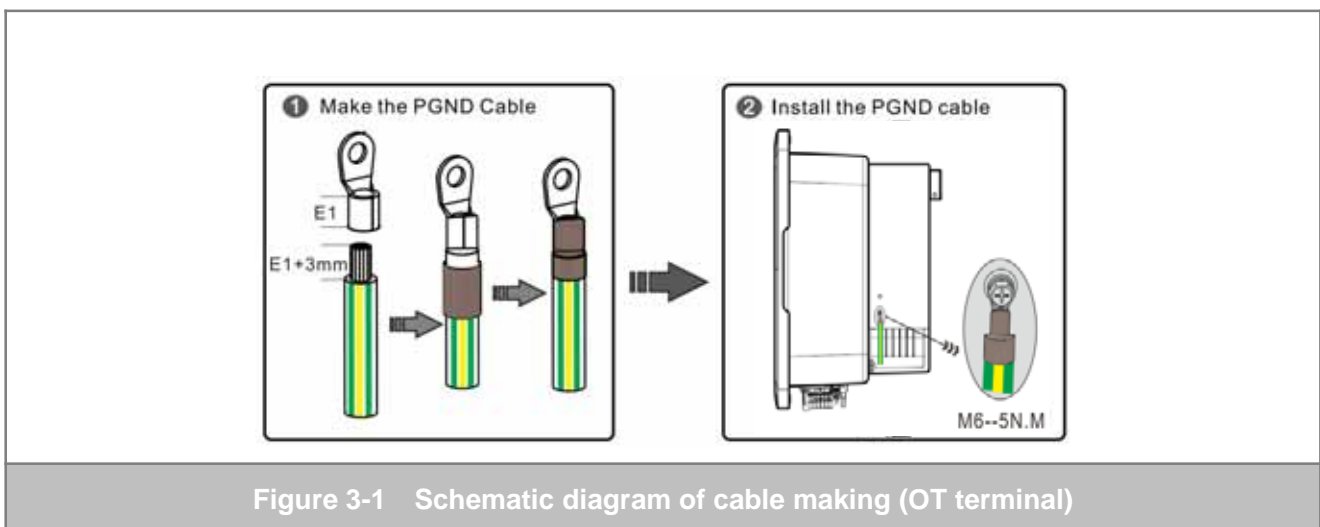

Figure 3-1 Schematic diagram of cable making (OT terminal)
- (1) Strip a section of bare copper core of the ground cable in the corresponding specifications using the wire stripper. Ensure that the length of the bare copper core is 3 mm longer than that of the OT terminal.
- (2) Cover the OT terminal with a heat shrinkable tube in a suitable size. It is recommended that the length of the heat shrinkable tube (withstand voltage $\geq 600V$) be 1.5-2 times the length of the terminal.
- (3) Crimp the OT terminal to the bare copper core using the crimping pliers.
- (4) Blow the heat shrinkable tube tightly using the heat gun to wrap the terminal and cable tightly. At this time, the cable is completely made (the cable making process is shown in Figure 3-1 1).
- (5) Fasten the OT terminal of the ground cable to the ground interface with M6 screws, with a fastening torque of 5 N.m (For more information, see Figure 3-1 2).